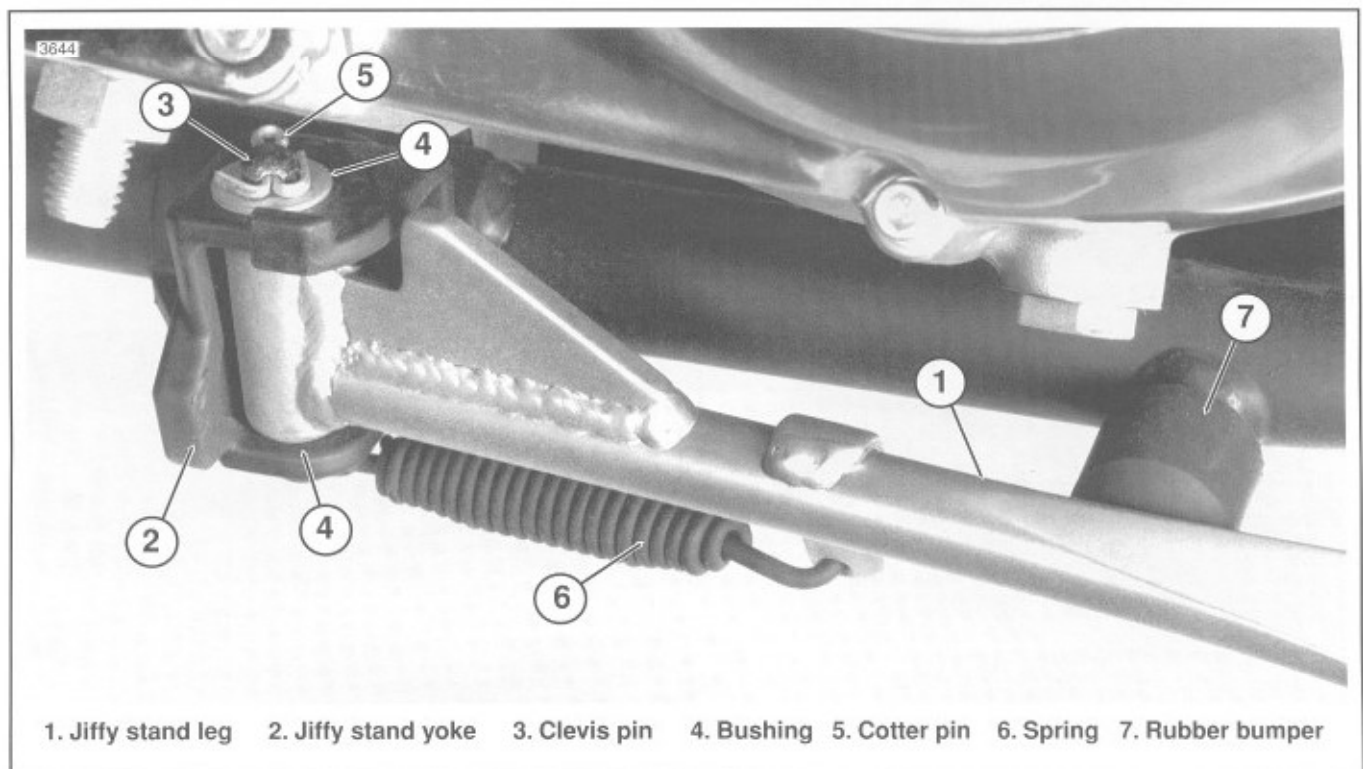
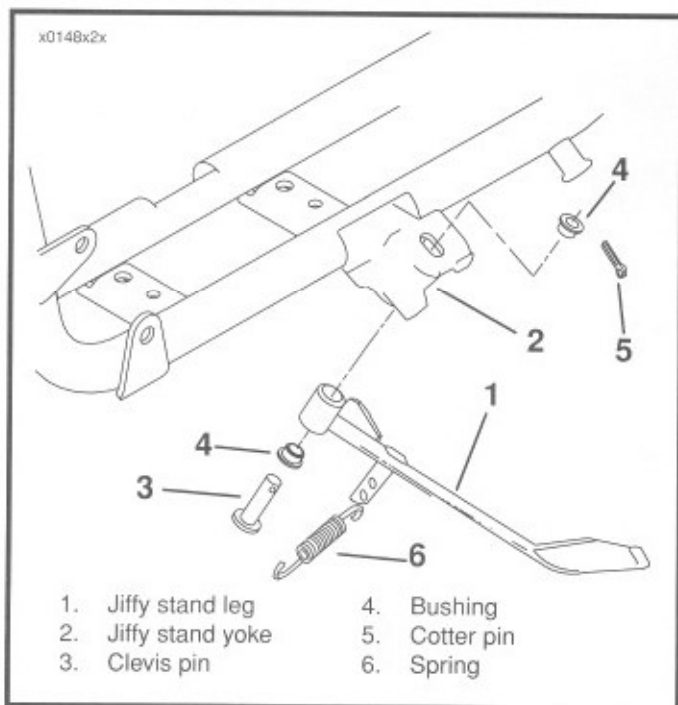

Figure 2-94. Jiffy Stand in Retracted Position
Figure 2-95. Jiffy Stand
2. See Figure 2-94. Remove rubber bumper (7) from frame to permit further retraction of jiffy stand leg (1). Additional spring tension relief allows for easier spring removal.
3. Place jiffy stand leg (1) in retracted position. Remove and discard cotter pin (5).
4. See Figure 2-95. While firmly holding jiffy stand leg (1) in fully retracted position, withdraw clevis pin (3) until it disengages with the upper pivot hole of jiffy stand yoke (2).
5. Detach spring (6) from anchor pin using pliers. Unhook other end of spring from jiffy stand leg (1).
6. Remove clevis pin (3) from lower pivot hole of jiffy stand yoke (2). Remove jiffy stand leg (1). Remove upper and lower bushings (4).
## CLEANING AND LUBRICATION (Figure 2-95)
2. See Figure 2-95. Hook either end of spring (6) into spring mounting hole on jiffy stand leg (1). Install loose end of spring over anchor pin.
3. While holding end of spring (6) in groove of anchor pin and holding jiffy stand leg (1) in its retracted position, position pivot end of jiffy stand leg within yoke (2) on motorcycle frame. Insert clevis pin (3) through lower pivot hole of yoke and halfway into pivot hole of jiffy stand leg.
4. See Figure 2-94. Lift jiffy stand leg (1) upward, aligning pivot hole of jiffy stand leg with slotted upper hole of yoke (2). With shoulder down, position bottom bushing (4), over clevis pin (3). Insert clevis pin (3) through holes in jiffy stand leg and yoke.
5. Install upper bushing (4) over end of clevis pin (3) and against upper surface of yoke (2). Insert **new** cotter pin (5) through hole in end of clevis pin. Bend ends of cotter pin apart to secure.
6. Press rubber bumper (7) onto mounting stud on motorcycle frame.
7. Extend and retract jiffy stand leg several times to check for proper operation. In retracted position (up), jiffy stand leg should be securely seated against frame-mounted rubber bumper (7).